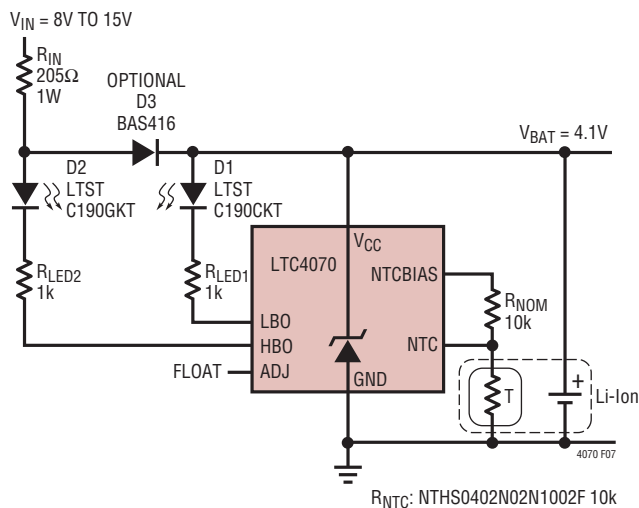

**Figure 6. Photovoltaic Charger with Extremely Low Leakage When Not Charging**
A photovoltaic (PV) application for the LTC4070 is illustrated in Figure 6. In this application, transistor Q1 has been added to further reduce the already low quiescent current of the LTC4070 to achieve extremely low battery discharge when the PV cells are not charging the battery. In long battery life applications, Q1 isolates the battery from the LTC4070 when Q1's base voltage falls. Under normal operation, the PV cells provide current through the
The PV application schematic in Figure 6 also illustrates using the LTC4070 with a 10k, 5% curve 2 type NTC thermistor, NTHS0402N02N1002F. Here  $R_{NOM}$  is 10k, and the rising temperature trip points are 40°C, 50°C, 60°C and 70°C.